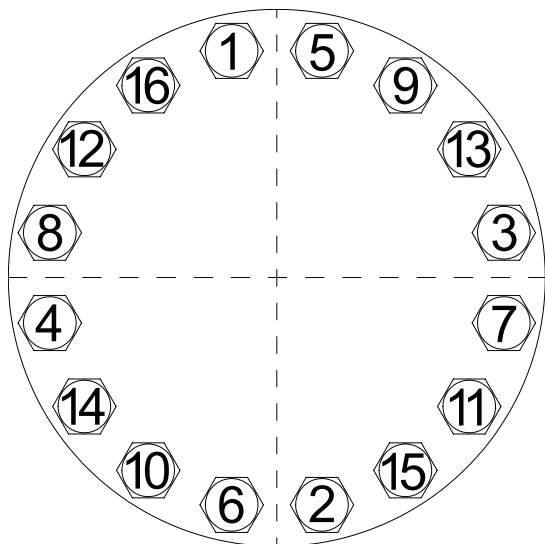

Figure 24 Bonnet Bolt Tightening Pattern
- 6 Follow proper body-to- bonnet bolting procedures. Begin to torque the bonnets nuts (Key 21) $\frac{1}{4}$ of the torque value listed in Table 2, torque the nuts in a crisscross pattern as shown in Figure 24. Hot torquing the valve nuts is not recommended.